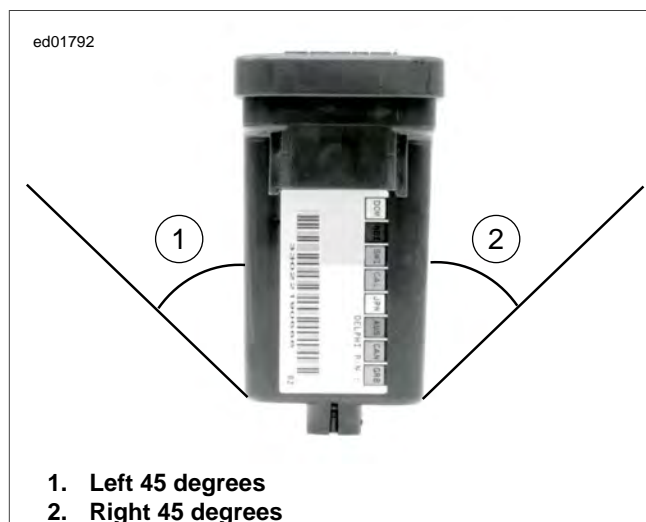

Figure 5-5. Tilting: TSM, TSSM or HFSM
- See Figure 5-5. The turn signals will cancel within two seconds upon turn completion. A sensor inside the TSM, TSSM or HFSM cancels the signal after the vehicle has been returned to an upright position.
2. See Figure 5-5. Position TSM, TSSM or HFSM in the same orientation it is mounted on the vehicle.